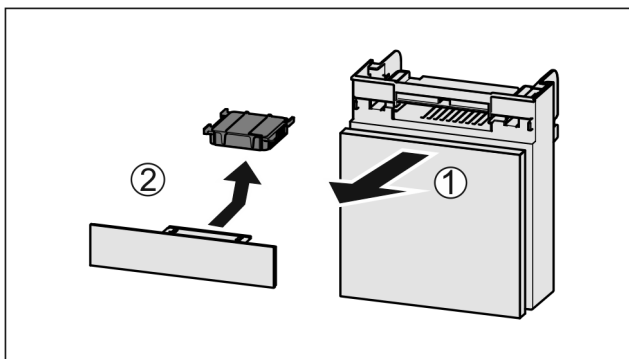

Fig. 164
- ▶ Pull out the compartment Fig. 164 (1).
- ▶ Remove the carbon filter Fig. 164 (2).